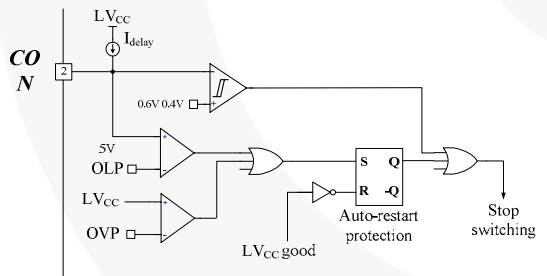

Figure 21. Internal Block of Control Pin
4. Control Pin: The FSFR-series has a control pin for protection, cycle skipping, and remote on/off. Figure 21 shows the internal block diagram for control pin.